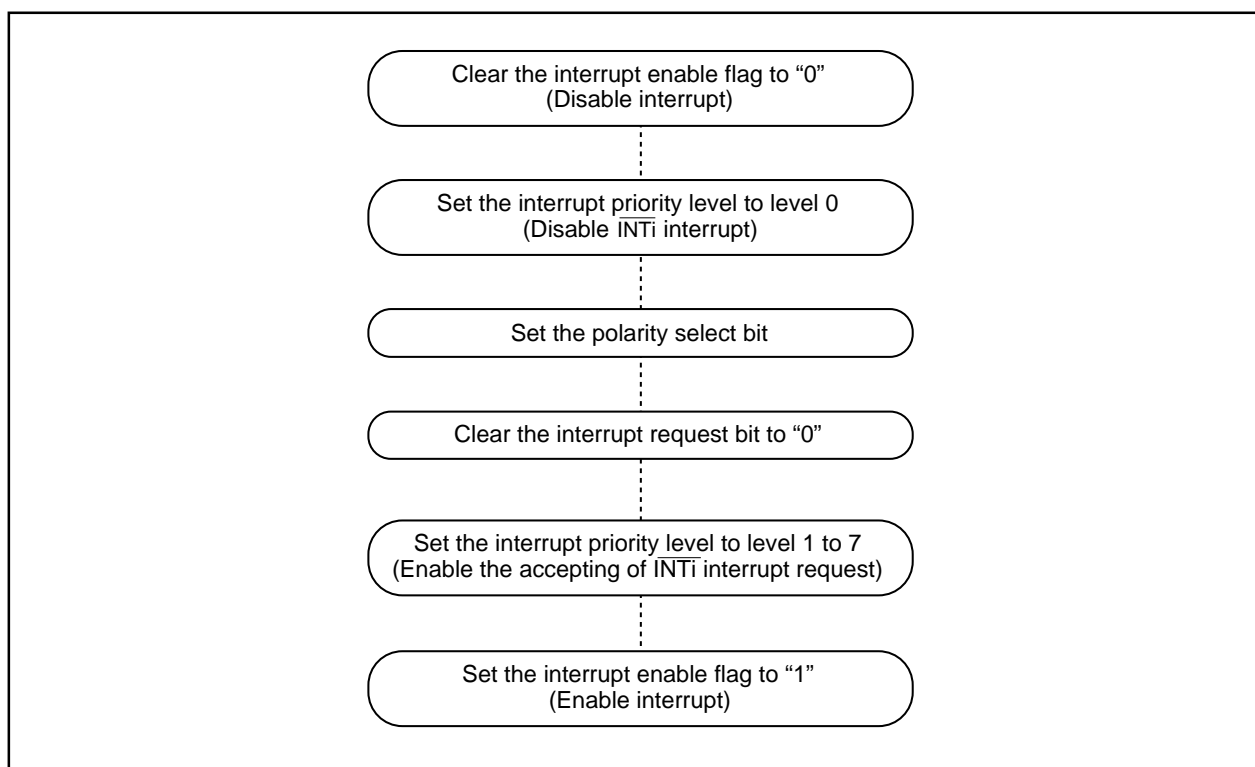

Figure 4.7.1. Switching condition of  $\overline{INT}$  interrupt request
- When the polarity of the  $\overline{INT}_0$  to  $\overline{INT}_5$  pins is changed, the interrupt request bit is sometimes set to "1". After changing the polarity, set the interrupt request bit to "0". Figure 4.7.1 shows the procedure for changing the  $\overline{INT}$  interrupt generate factor.